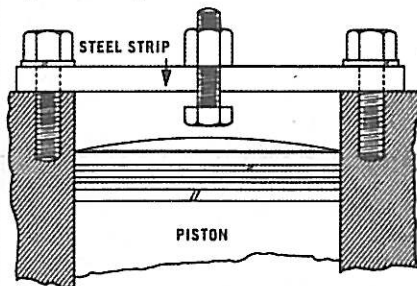

FIG. 12.
2. Obtain a stout strip of steel about seven inches long and drill three 1/2-inch holes in it (see Fig. 12 & 13 for position of holes). This strip is placed across the center of the No. 1 cylinder bore and bolted on each end to secure it to the block. Caution: Be sure that the strip of steel is rigid enough so that it will not be deflected when the piston contacts the center bolt stop. Incidentally, the positive stop should be adjusted so as to stop the piston's upward travel at approximately .200 to .800 below T.D.C.